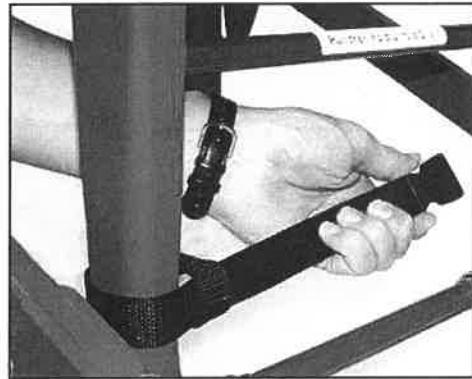

Figure 5 - Tightening Strap
3. Pull the strap until the looped end is tight around the chair leg (Figure 5).